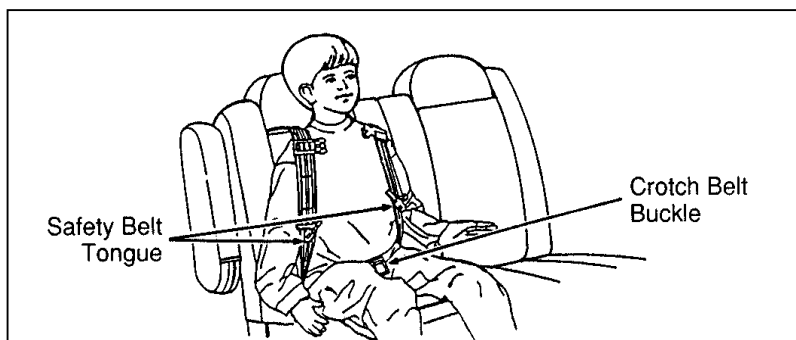

Figure 3: Shoulder safety belt placement on the child
4. Place the child on the child seat and position the shoulder belts over each shoulder. Refer to Figure 3.
3. Slide the shoulder belts off the child's shoulders and remove the child. Refer back to Figure 3.